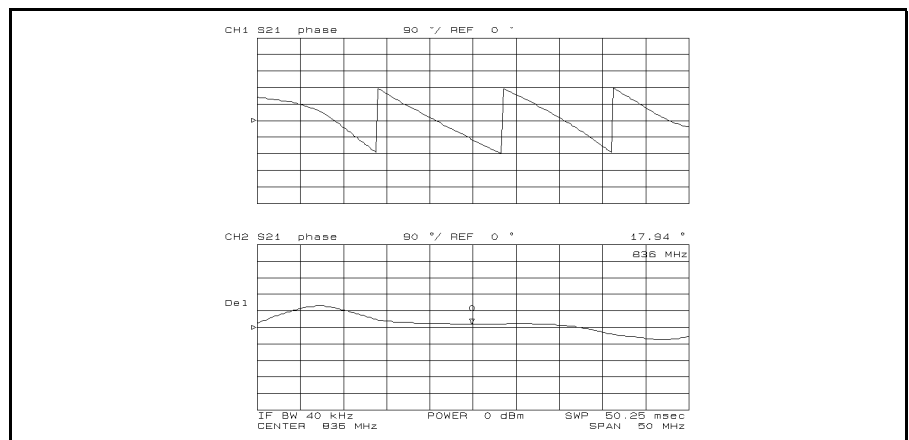

Figure 5-8. Electrical Length Adjustment
4. Press **[Display]** **DUAL CHAN** **on OFF** to **ON off** to display the results before and after the adjustment. The results are shown in Figure 5-8.
You can also determine the electrical length by pressing **[Scale Ref]** **ELEC DELAY MENU** **ELECTRICAL DELAY**. Then turn the rotary knob until the displayed trace is flat (see Figure 5-8). It may take many revolutions of the knob before the trace is flat.